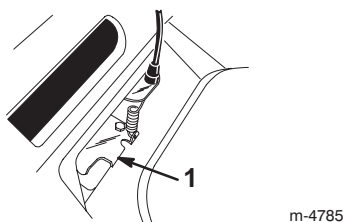

Figure 25
- Push the belt guide tab down until it contacts the lawn mower, then hold it in place (Fig. 25).